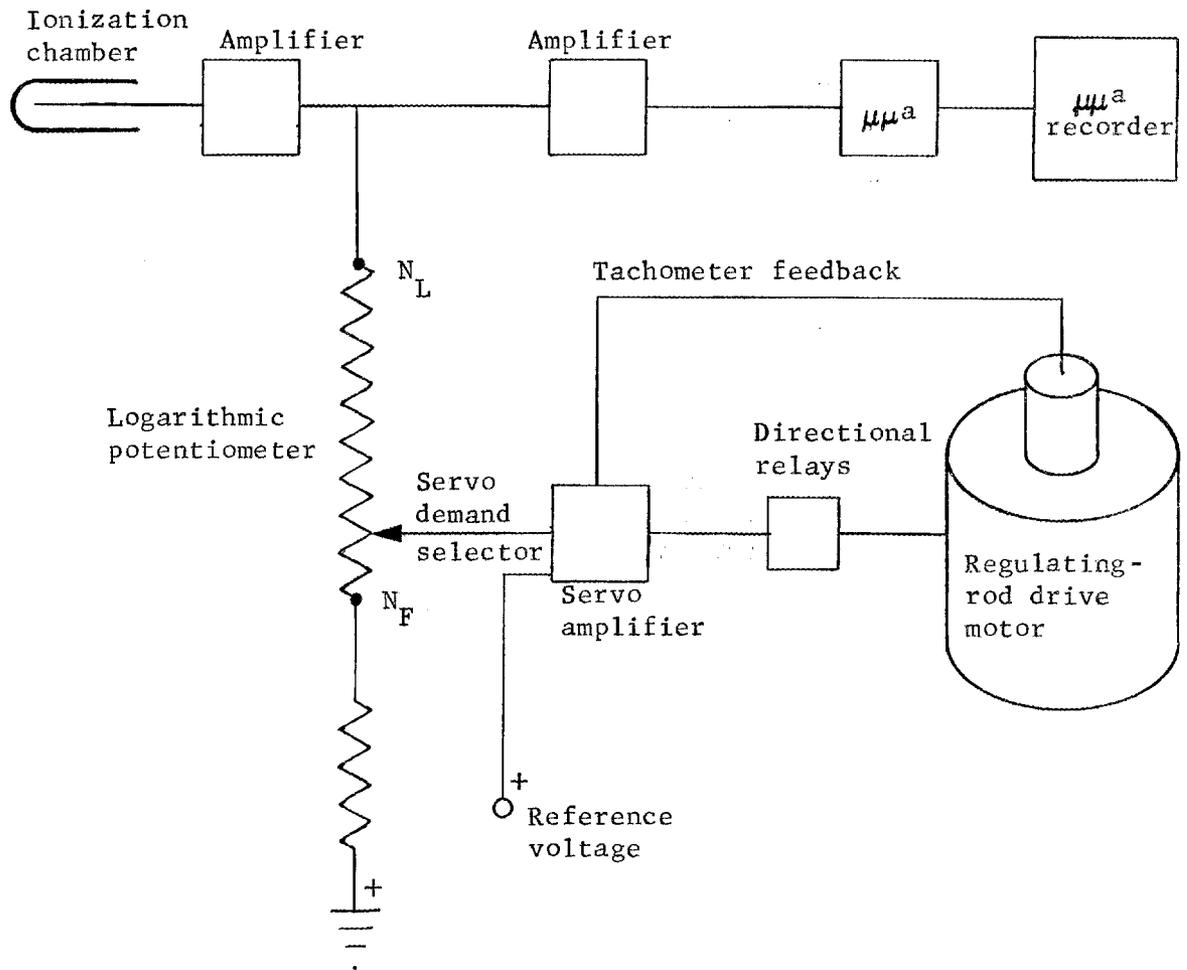

Fig. V-53. One Type of Servo System
38. A block diagram of an ORR-type servo system is shown in Figure V-53.
46. The tachometer in Figure V-53, also driven by the regulating-rod-drive motor, furnishes a voltage whose polarity is determined by the direction in which the regulating rod is moving. A portion of this voltage, taken from a potentiometer connected across the tachometer, is fed back to the servo amplifier (feedback signal) where it is combined with the error signal. The feedback and error signals are arranged to always be in opposite polarity. For proper servo operation, the feedback signal is adjusted so that it cancels the error signal just before the servo has brought the reactor power to the level called for by the servo demand. Because of the energy stored in the mechanism and rod, they coast the remaining distance needed to bring the reactor just to the desired power level. does not
53. Referring to Figure V-53, you can see that when the servo demand is lowered (moved toward N_L) a (smaller, larger) voltage is developed from the demand to ground and is fed to the servo amplifier. This larger voltage represents, to the servo amplifier, a higher-than-desired power level. The error signal, thus, is such that the servo-controlled rod is inserted to (raise, lower) the power level.